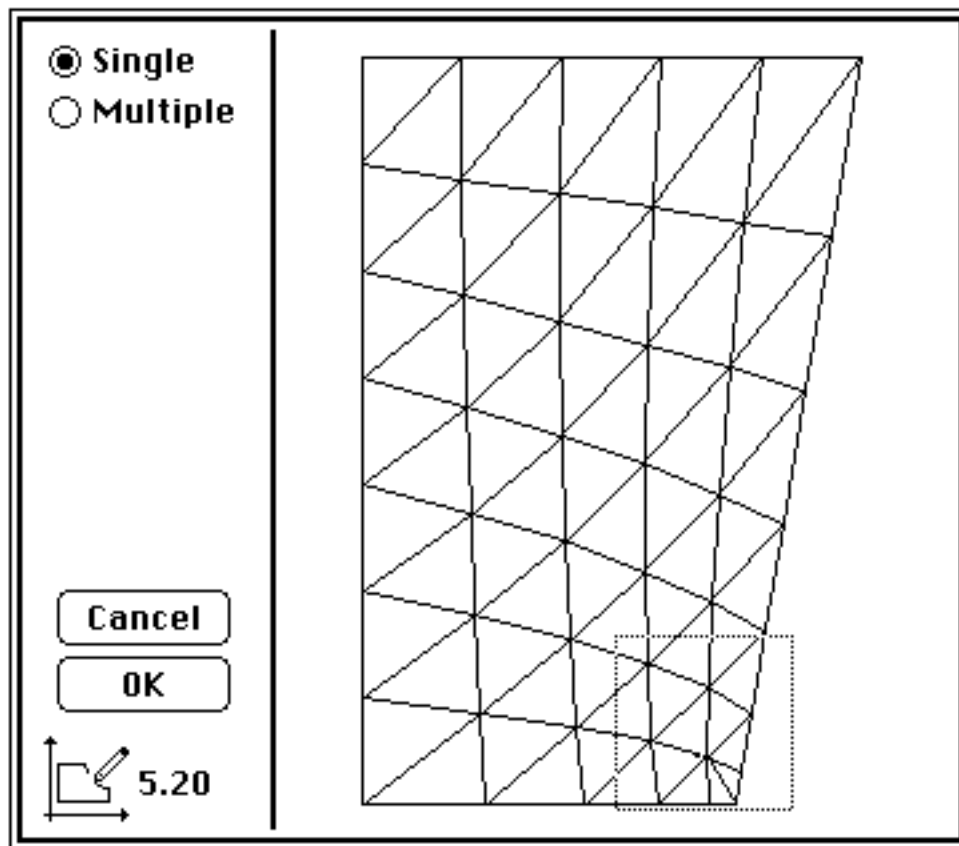
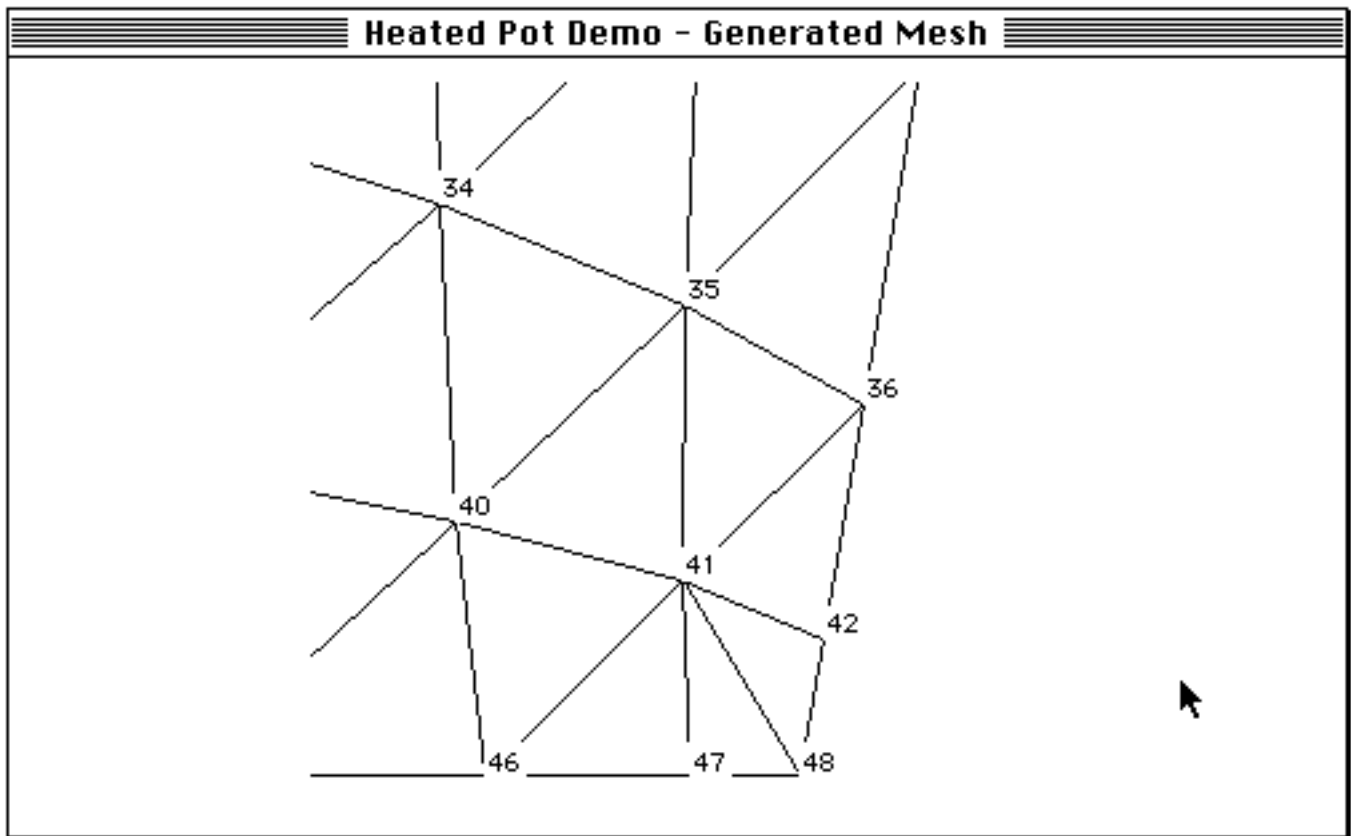

Fig 3.64 Zoom
Fig 3.65 Enlarged plot
- Create a selection rectangle (Fig 3.64) by dragging with the mouse.
- Click OK (Fig 3.64) to generate the enlargement (Fig 3.65).